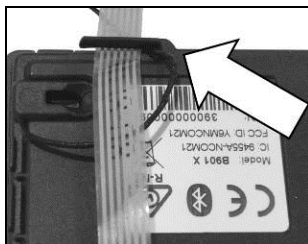

Fig. 11
- Secure the keypad flex in the specials stop (Fig. 11).